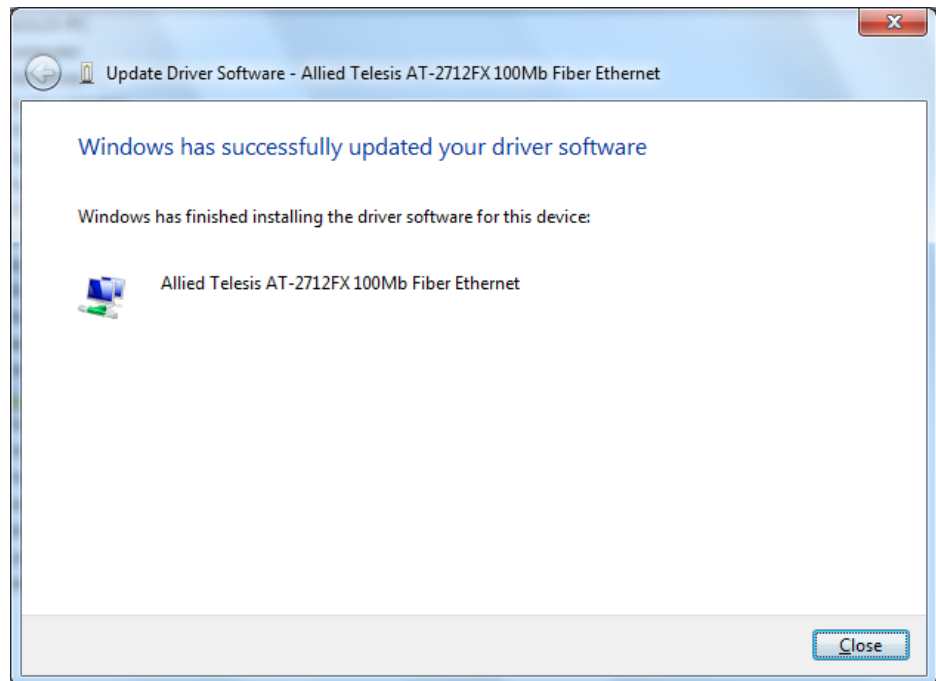

Figure 28. Update Driver Software - Confirmation Window
16. Click **Next**. A confirmation message is displayed. See Figure 28.